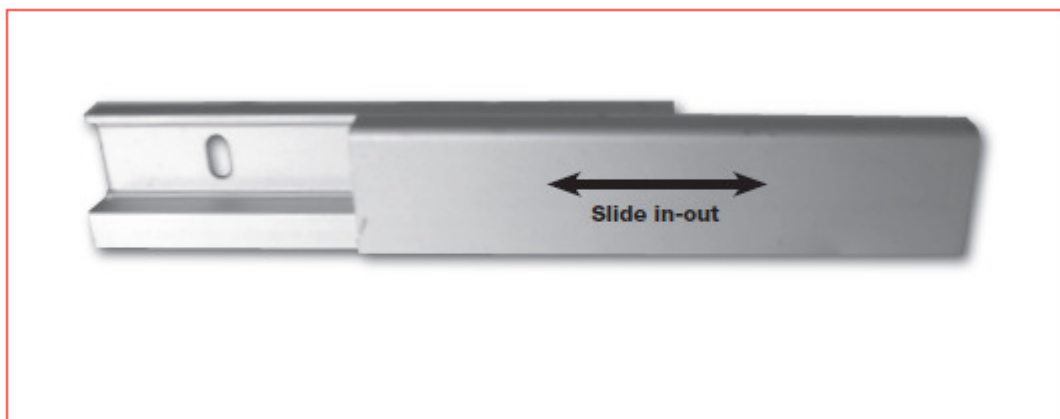

Figure 1
3. Remove the cover strip from aluminium carrier as *Figure 1* below.